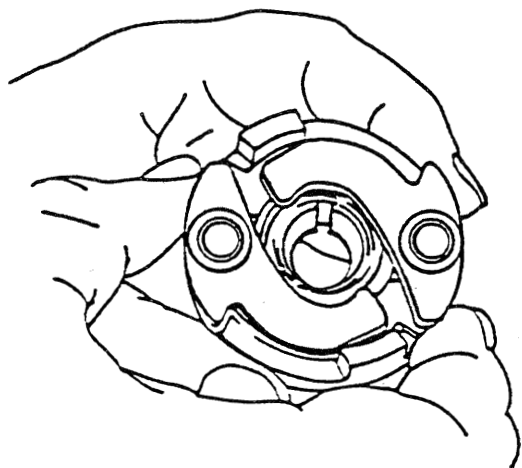

Figure 912. Checking Impulse Coupling for Magnetization
- A. Check cam assembly (11) and body (9) for magnetization which would prevent flyweights from engaging. Hold assembly as shown in Figure 912 and push upper position flyweight tail against body (9) trip dog. When released, flyweight tail must drop down. If flyweight tail sticks to body, parts are magnetized and coupling may not function. Perform test on both flyweights.